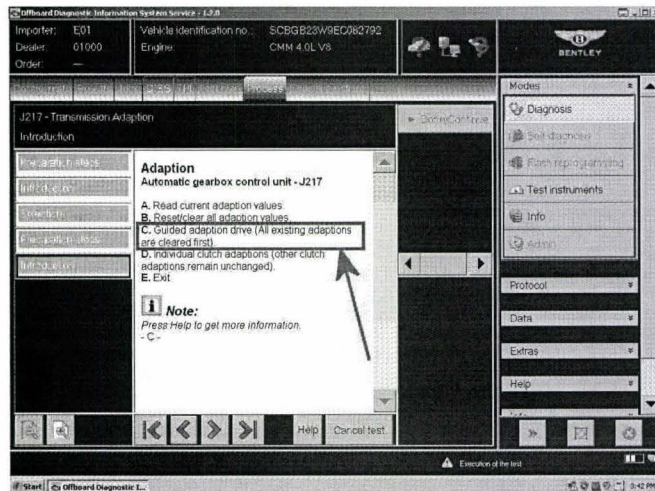
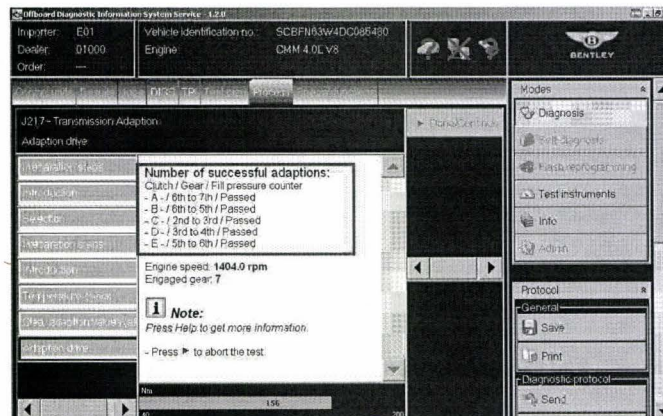

Figure 13
Figure 14
- Once at the screen shown in Figure 13, Select option **C**. Guided adaption drive (All existing adaptions are cleared first) and follow all on screen prompts until the Number of successful adaptions in all required fields have passed as shown in Figure 14